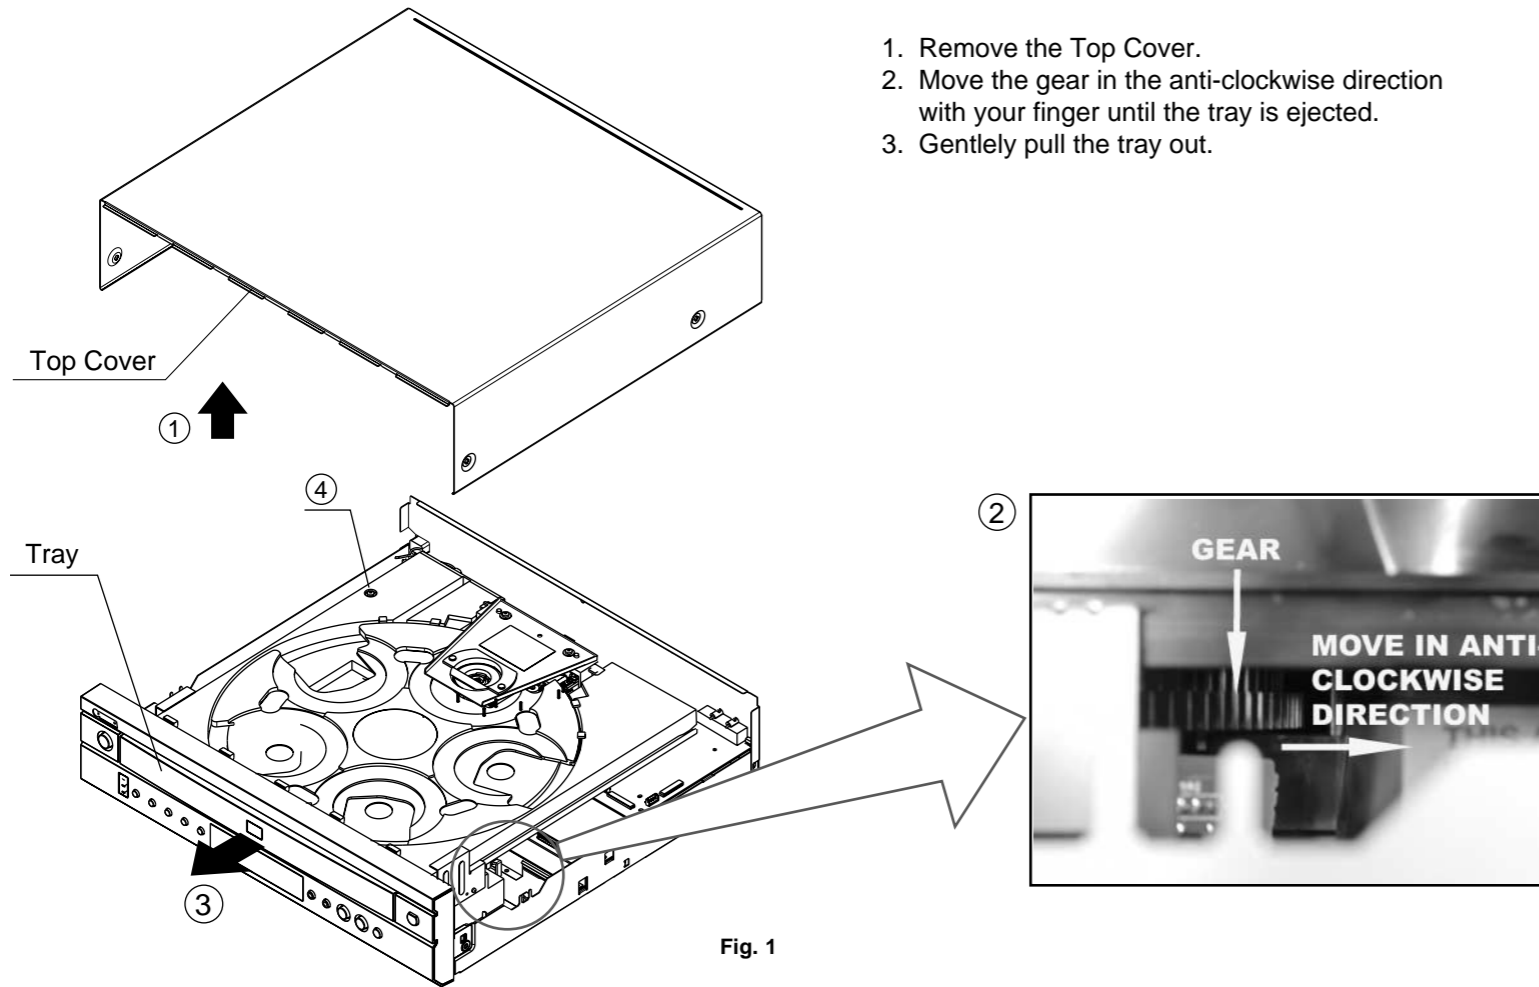

Fig. 1
- a. Remove 1 screw (④) in Fig. 1.